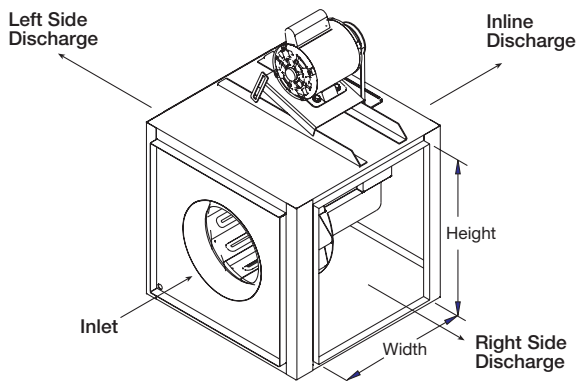

Figure 8
**Side Discharge:** Make sure discharge is orientated in the same direction as originally ordered, performance will change with different discharge positions. Refer to Figure 8 for proper side discharge definition and the Side Discharge chart for dimensions. Refer to the CAPS program or consult factory for performance corrections.